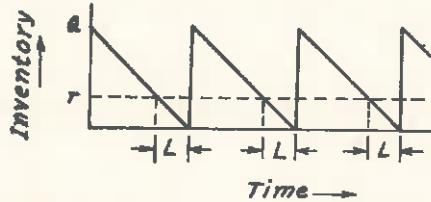

Fig. 24.3. Time pattern for inventory level for simple EOQ model.
(1) Simple EOQ model
- It is also assumed that not only the demand is known with certainty, but that is the same from day to day and that stockouts, are not allowed. Under these assumptions, Fig 24.3 depicts the inventory position through time.
- If we start to observe the inventory position immediately after receipt of an order, the quantity in stock Q decreases steadily until a lead time's supply is reached. If *lead time* (L) is 5 days and demand is 4 (pieces) per day, a lead time's supply is 20 pieces or units. Therefore when 20 units remain in the store, an order is placed. This is called the *re-order point*. Exactly 5 days after the order is placed, the stock is replenished and the cycle repeats itself.